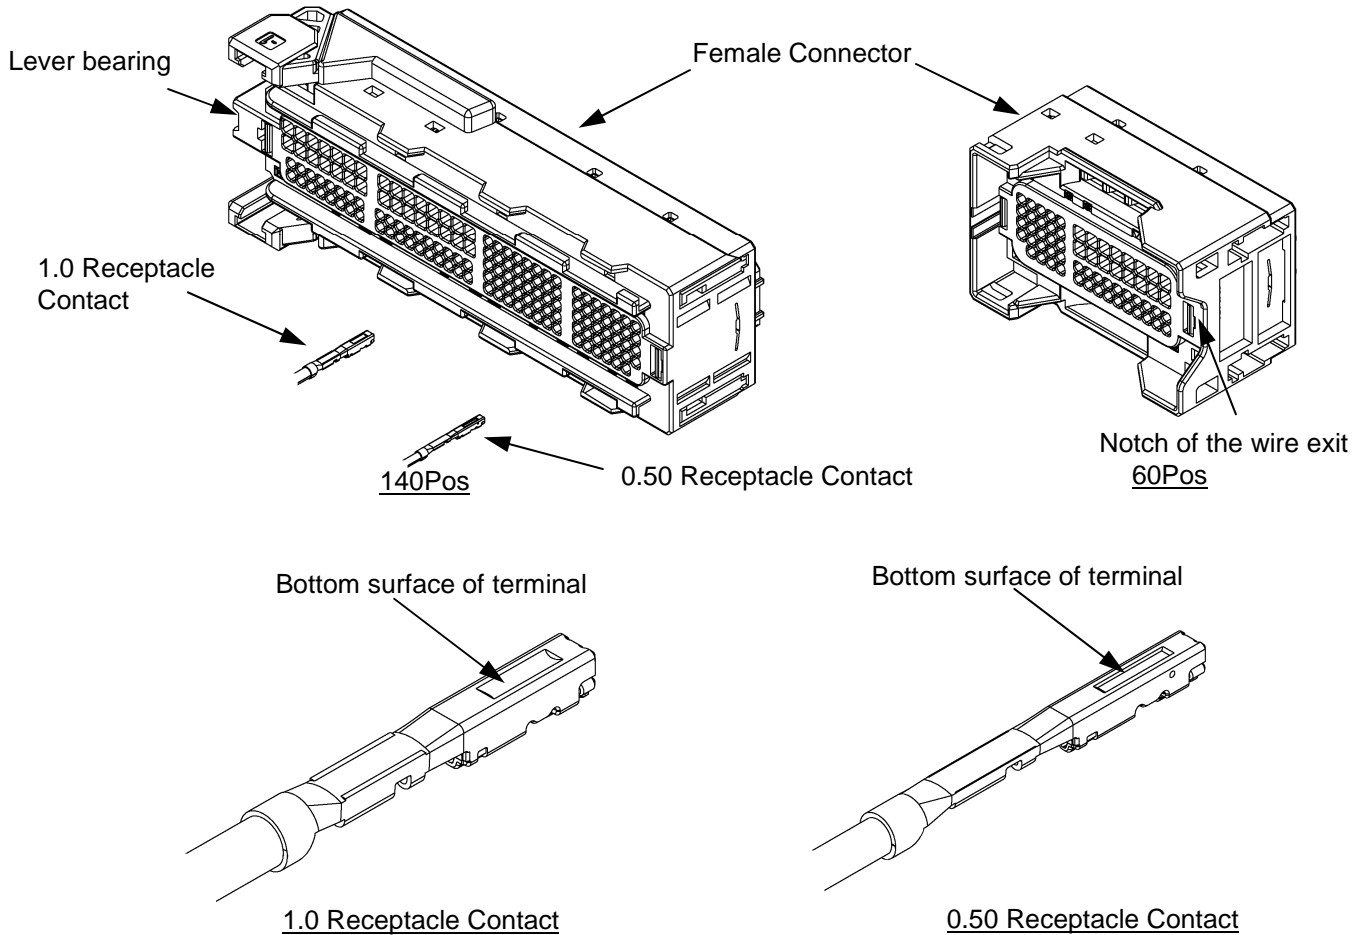

Fig.12
- (4) 140Pos turn the lever bearing to left as shown in Fig.12, and 60Pos insert the bottom surface of 0.5/1.0 Receptacle terminal with the notch of the wire exit to right and insert terminal as straight as possible into the housing.